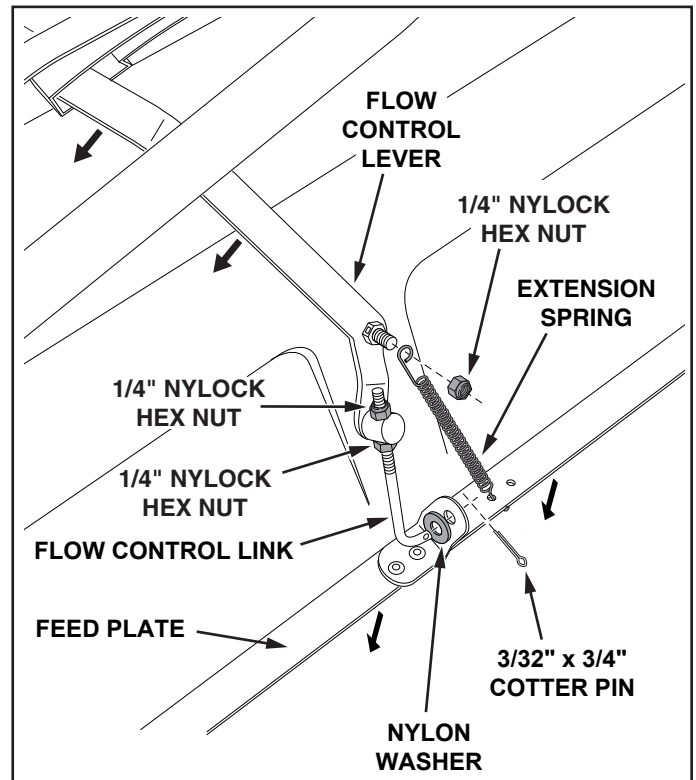

FIGURE 10
- Move the flow control lever as far as it will go to the "OFF" position. Push the feed plate back as far as it will go to the closed position. See figure 10.
- Place a nylon washer onto the bent end of the flow control link and then insert the link into the feed plate bracket. Secure it with a 3/32" x 3/4" cotter pin. See figure 10.
- Tighten the lower 1/4" nylock hex nut until it touches the bottom of the ferrule, then tighten the upper 1/4" nylock hex nut until it is snug against the top of the ferrule. See figure 10.
- Hook the open end of the spring into the feed plate. Place the closed end of the spring onto the end of the hex bolt in the flow control lever. Secure it with a 1/4" nylock hex nut. See figure 10.
- Open and close the feed plate using the flow control lever. Check to make sure the feed plate is closed completely when the lever is in the "OFF" position. If the feed plate does not close completely, adjust the 1/4" nylock hex nuts on the flow control link. See figure 10.